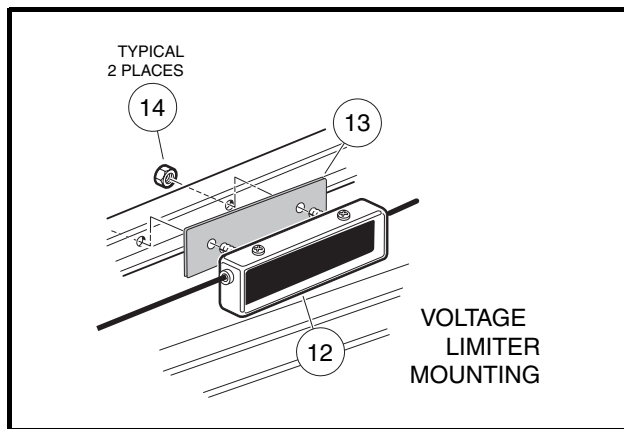

Figure 12-15 Voltage Limiter
5. Remove the two nuts (14) securing the voltage limiter (12) to the I-beam (**Figure 12-15, Page 12-17**).
6. Remove the voltage limiter (12) and the thermal pad (13) from the vehicle.
1. Place the thermal pad (13) on the two voltage limiter mounting studs as shown (**Figure 12-15, Page 12-17**).
2. Install the voltage limiter on the inboard side of the I-beam. Insert the mounting studs through the mounting holes. Install a locknut (3) on each stud and tighten the voltage limiter to 65 in-lb (7.3 N·m).